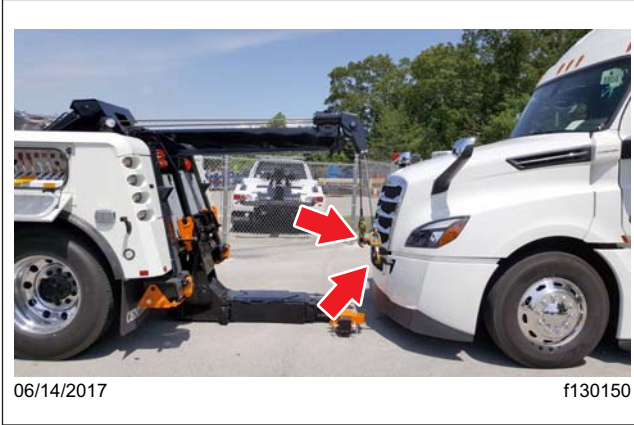

Fig. 5, Tow Cables Connected to the Tow Hooks
5. Pull the tow cables out of the tow truck and connect the tow cable lifting hooks onto the tow hooks, then extend the recovery boom within 4 to 6 inches (10 to 15 cm) of being vertical of the tow hooks. See Fig. 5.